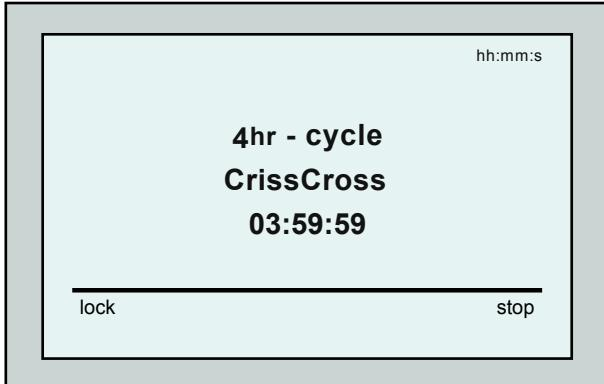
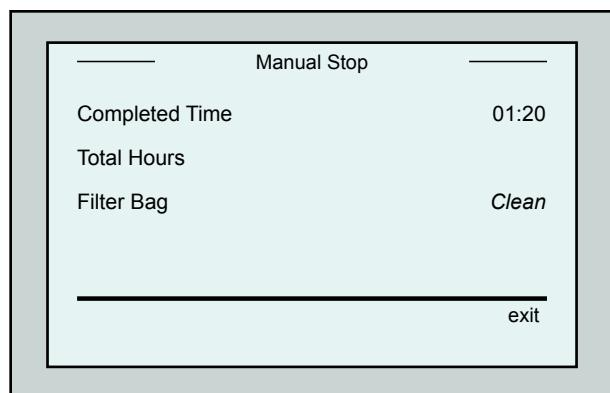

Figure 4: Countdown screen for 4 hour session
Figure 5: Manual Stop screen
From the *Countdown* screen, press **Lock** (Figure 4).
1. From the *Countdown* screen (Figure 4), press **Stop**. The MMI screen displays the message: "Stopping robot – please wait". After 5 seconds the *Manual Stop* screen is displayed (Figure 5).